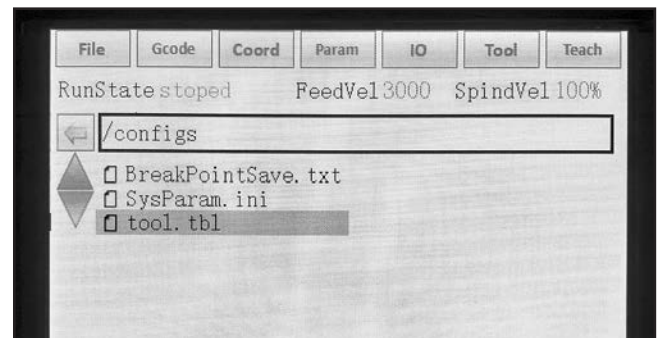

Figure 33. Example of "configs" folder screen.
5. Navigate to "configs" folder and press "Enter" button, then press "Open" soft key to enter folder (see **Figure 33**).